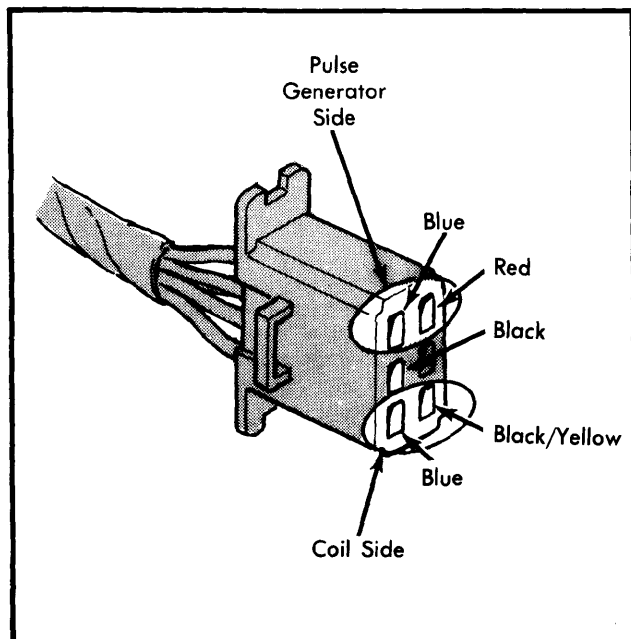

Fig. 6 Checking Voltage at Ignitor Connector
7) If voltage in step 6) was not 1-3 volts, proceed as follows. On all Civic models and California Accord and Prelude models with automatic transmissions, disconnect lead wires from ignitor in distributor. On all other models, disconnect ignitor connector. See Fig. 6. Check voltage on coil side of connector, first between blue wire and black (ground) wire and then between black/yellow wire and black (ground) wire. Battery voltage should exist with ignition switch "ON".